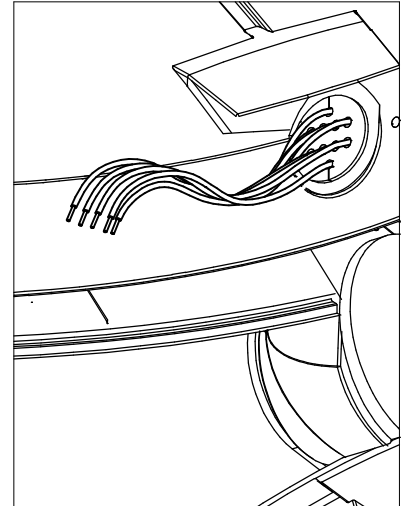

FIG. 5-2B
3. GUIDE EACH INDIVIDUAL WIRE THROUGH A SINGLE OPENING OF THE 10-HOLE WIREWAY GROMMET. (FIG. 5-2B)